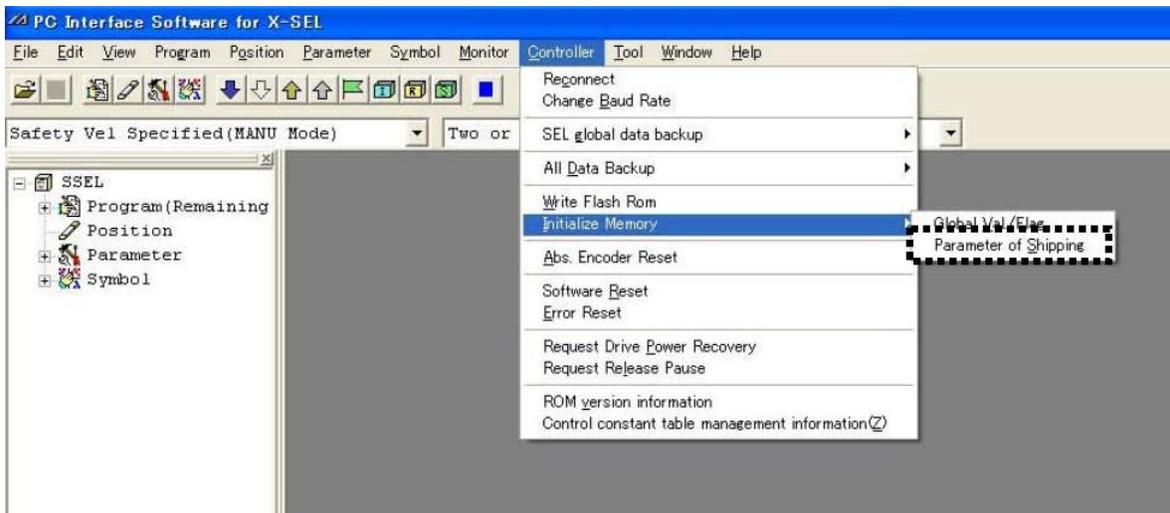

Fig. 8.23 Menu Bar (Parameter Initialization [Shipment Values]: Example of SSEL)
- (2) Enter a password (5119) in the displayed Input Password screen. The Parameter of Shipping menu will be displayed in the Initialize Memory menu (Fig. 8.23).